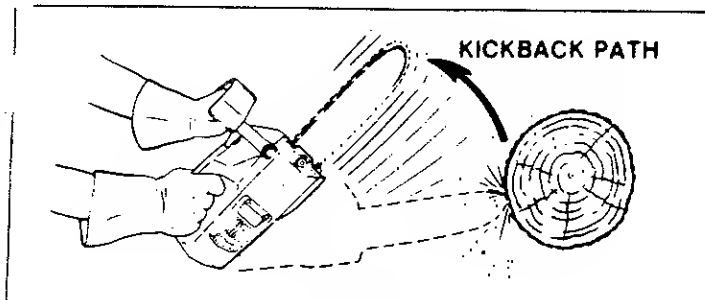

Figure 1
2. Never let the moving chain contact any object at the tip of the guide bar. Figure 1.